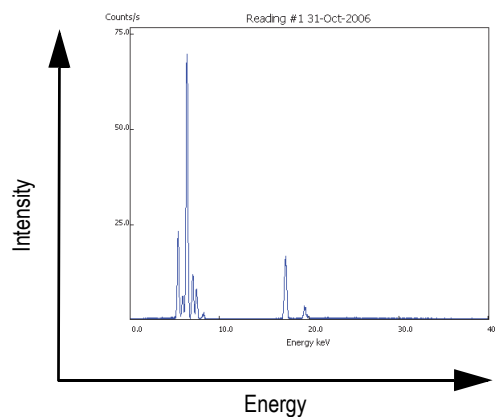

Figure B-2 Typical spectrum plot: Energy vs intensity
Typical spectra for EDXRF Spectrometry appear as a plot of Energy (E) versus the Intensity (I) [see Figure B-2 on page 116].